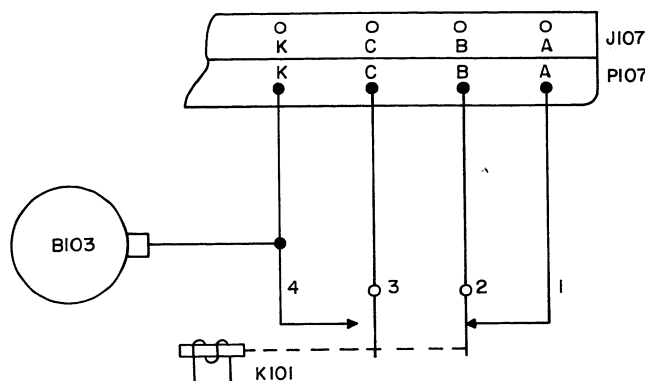

Figure 9-1. K101 Connections Previous to MOD 1
a. Relay K101 changed type, and the associated circuits changed by MOD 1. Figure 9-1 shows the circuit previous to MOD 1. The changes made by MOD 1 prevent unnecessary running of Autopositioner assembly.